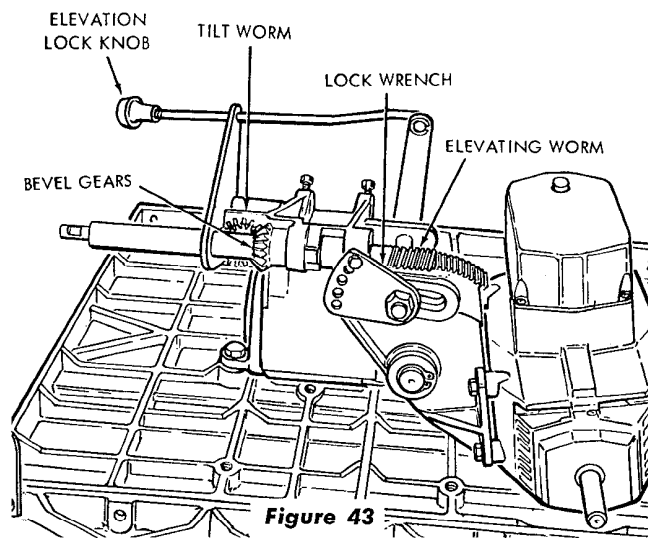

Figure 43
Clean the worm and gear teeth with kerosene or similar solvent and repack lightly with cup grease or automotive chassis lubricant. (See figure 43.)
6. After extended use, slight wear may cause the elevation lock to slip and an adjustment is required. Remove the screw that holds the lock wrench and shift the wrench to a different hole. (See figure 43.) If the holes do not provide enough adjustment, remove the lock wrench and re-position it on the hex nut. The adjustment is correct when it is securely locked with the elevation lock knob approximately one-inch away from the front panel.